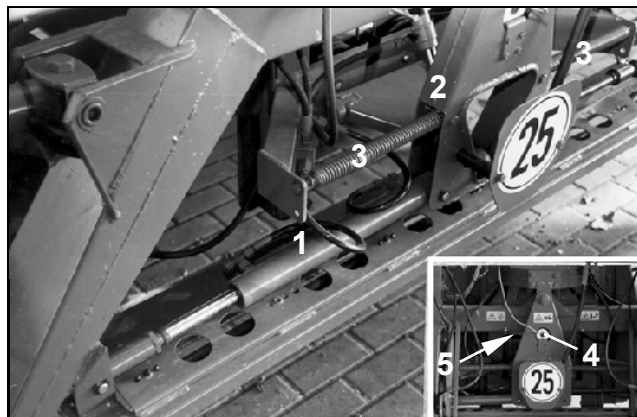
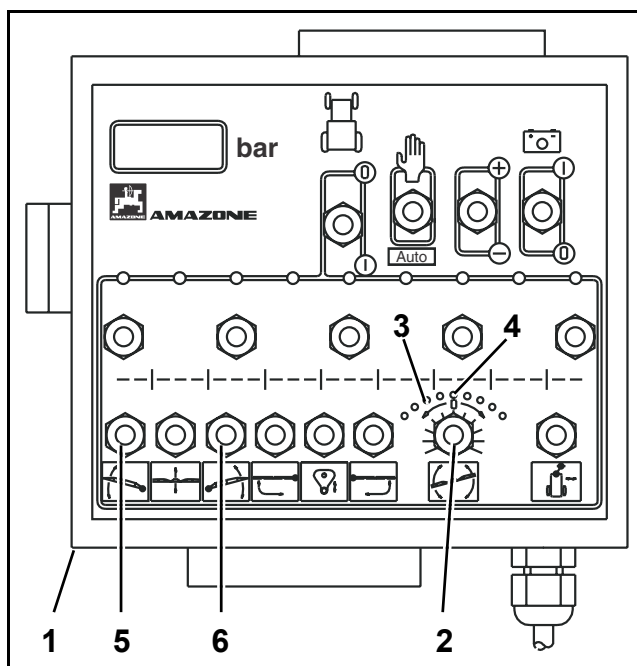

Fig. 119
Fig. 120
- Align booms parallel to the sprayer frame by pressing key (Fig. 120/2).
- Turn the potentiometer (Fig. 119/4) on the roller with the thread is turn around (Fig. 119/5) by hand until the centre diode (Fig. 120/4) lights up.